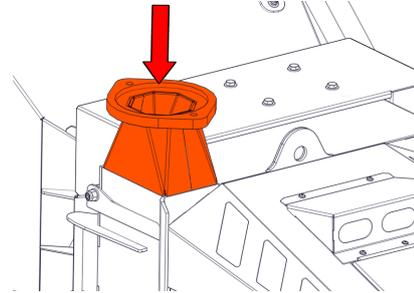

Figure 32 - Discharge flange - tube removed
3. Remove all traces of old grease and dirt from the discharge tube flange and the mounting flange (Figure 32).